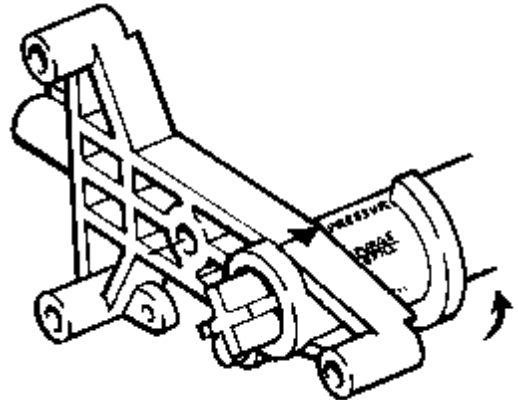

Figure 6
8. Push in RED KNOB and index timer to PRESSUR. (pressurise) position indicated on #1 cam (see Figure 6). Keep in this position for 5 minutes. This allows the tank to return to line pressure and permits easier movement of the valve discs.